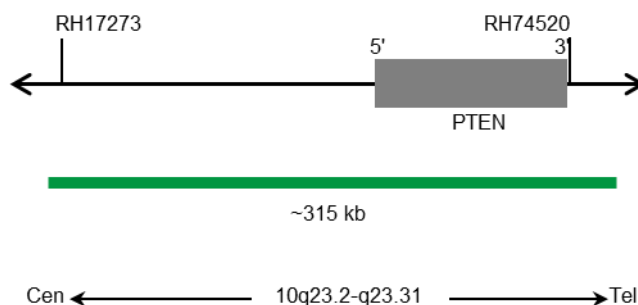

Fig. 1: SPEC PTEN Probe map (not to scale)
- Digoxigenin-labeled polynucleotides (~1.1 ng/μl), which target sequences mapping in 10q23.2 - 10q23.31* (chr10:89,440,649-89,755,790) harboring the PTEN gene region (see Fig. 1).